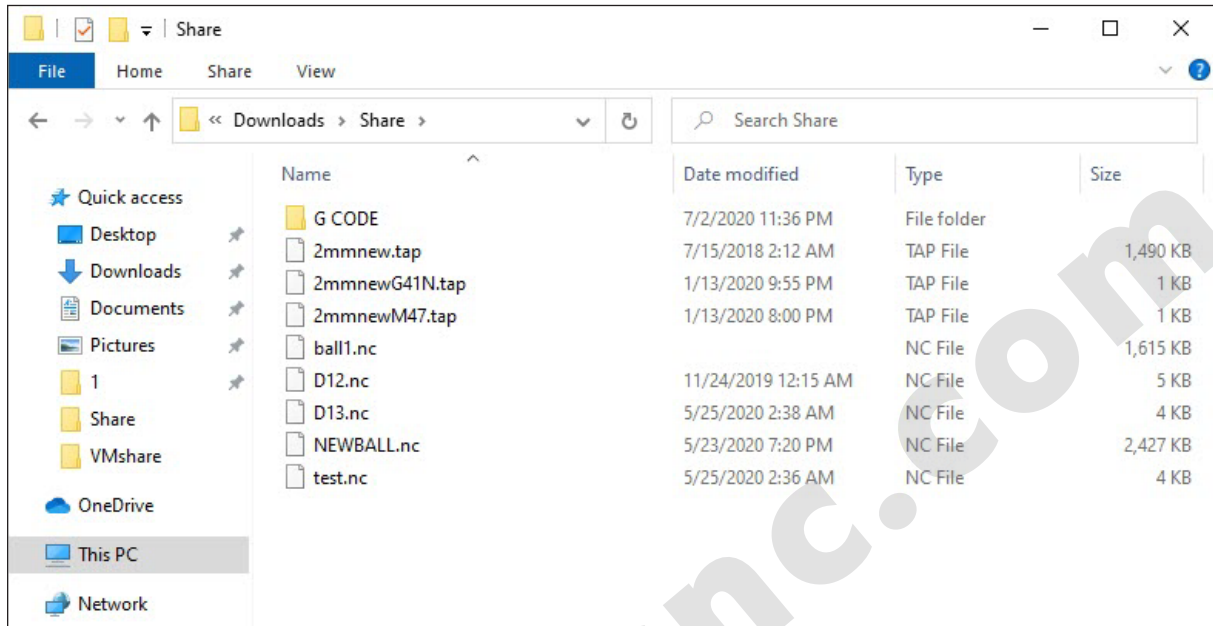

Figure 27 After Restart we can see the IP setting is successful
- 1) Copy the files you need into the folder “share” on the computer as Figure 27;